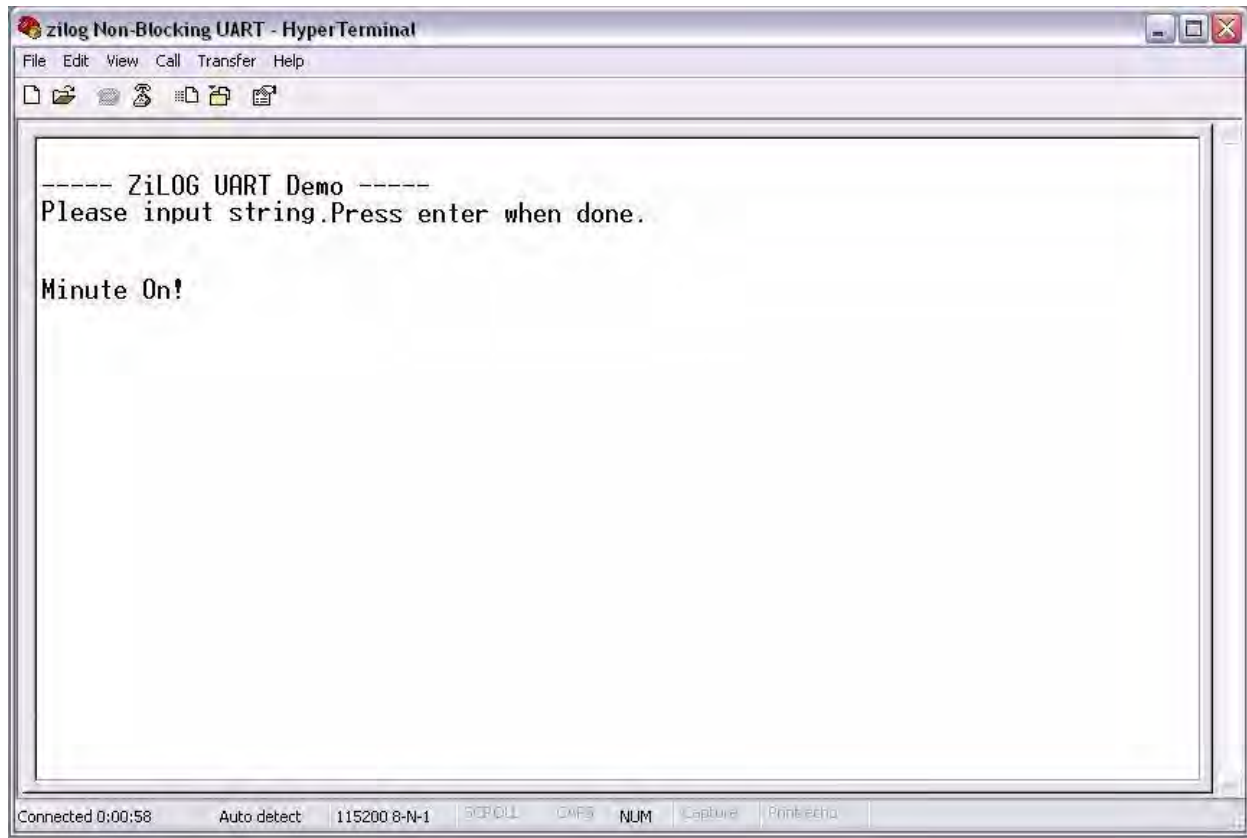

Figure 15. Showing Minute On notification
15. Press the Tab key, then enter the MINUTEON command and press Enter. The HyperTerminal window will display Minute On!, as shown in Figure 15.